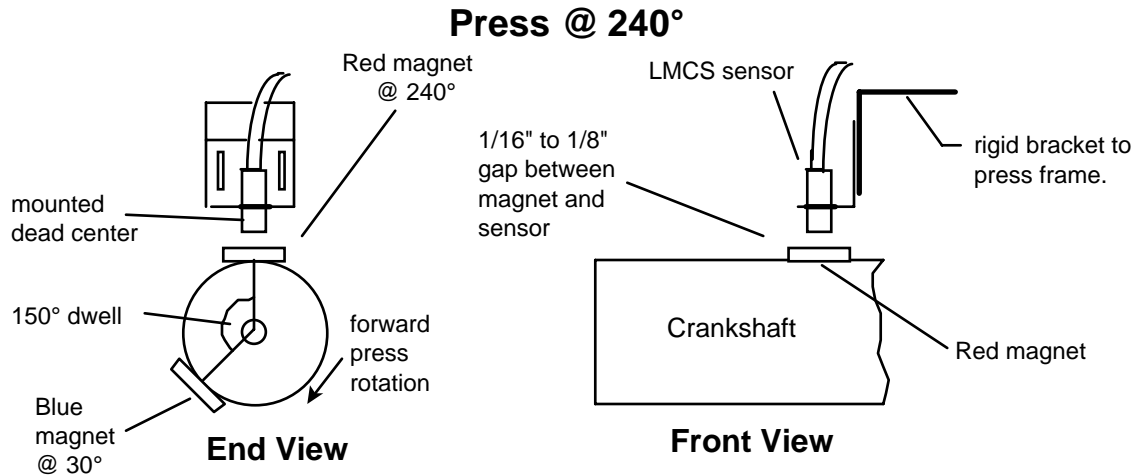

Figure 2-8. Installing the LMCS and magnets
2. Fabricate a bracket to position the LMCS 1/16" to 1/8" from the face of the magnets. If possible, make the bracket adjustable. To aid in mounting, the LMCS is supplied with a slotted mounting bracket. These slots are 1.5" apart, and approximately .1875" (3/16) wide by .75" long. Install the LMCS as shown in Figure 2-8.